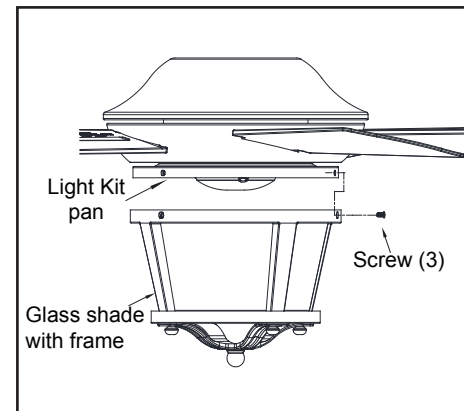

Figure 15
5. Remove three screws from the side of the light kit pan. Align the three screw holes on the frame with the three screw holes on the light kit pan. Re-install the screws to the three screw holes and tighten firmly to secure. (Figure 15)